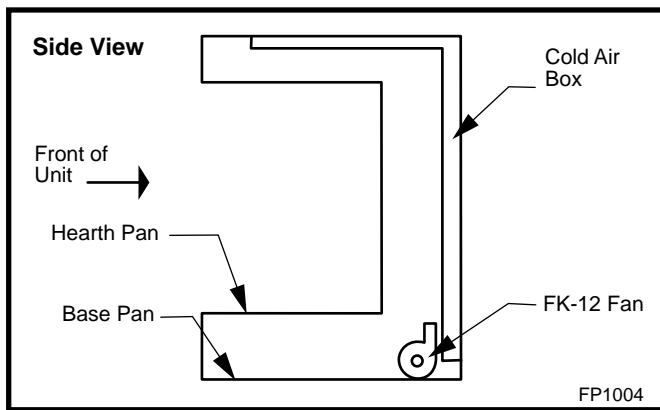

Fig. 57 FK-12 Fan Kit placement.
2. Install FK-12 fan in back of unit between hearth supports. (Fig. 57)